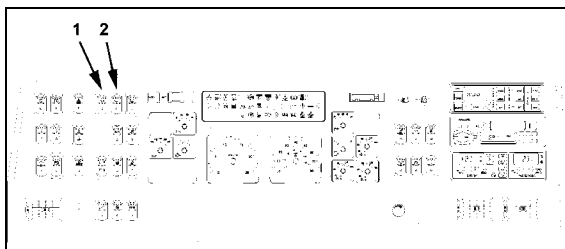

FIGURE 31: DASHBOARD
Depress the upper windshield wiper switch located on the dashboard L.H. side to the first position for intermittent wiping, and to the second position for continuous wiping (item 1, fig. 31).